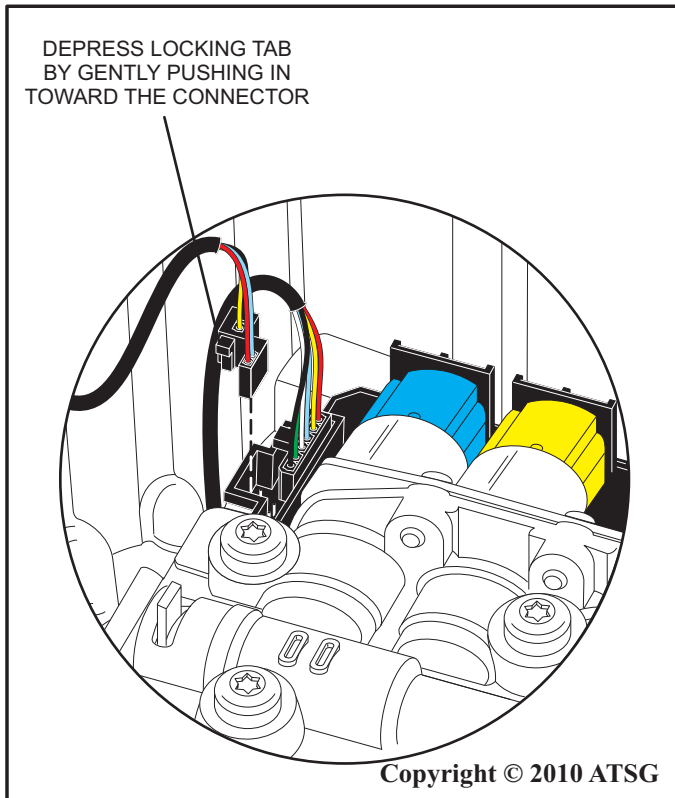

Figure 7
12. Depress the locking tab for the output shaft speed sensor connector by pressing in toward the connector gently and carefully remove the connector by lifting straight up as shown in figure 7.